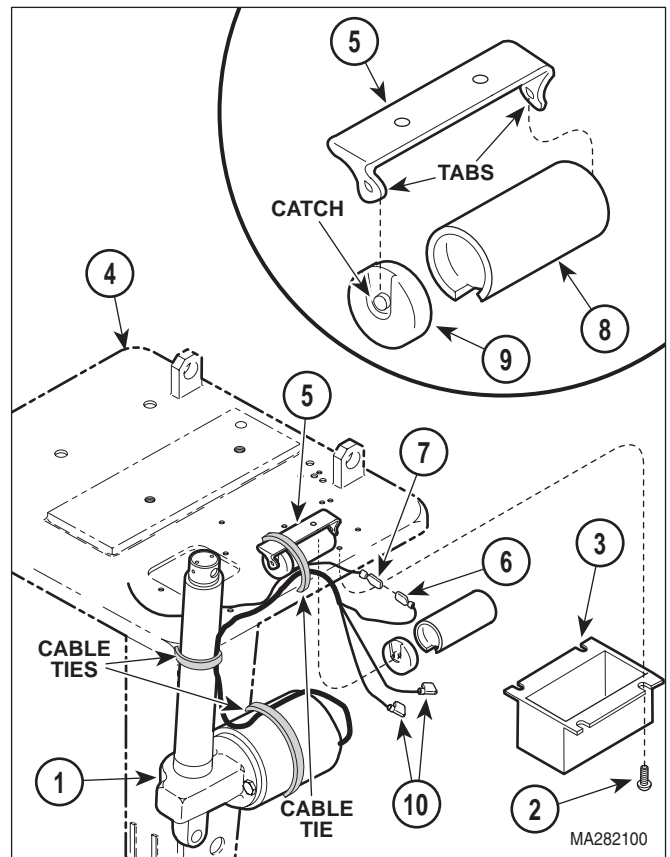

Figure 4-3. Wires Disconnection / Connection
- (4) Lower middle outer shroud assembly (4) down out of way.
- (5) Cut two cable ties securing actuator cable to shaft of tilt actuator assembly (1, Figure 4-3).
- (6) Remove two screws (2) and connection cover (3) from column adapter weldment (4).
- (7) Cut cable tie securing wire harnesses to capacitor mounting bracket (5).
- (8) Disconnect actuator wire (6) from wire (7).
- (2) Connect two wires (10, Figure 4-3) to terminals of tilt capacitor (8).
- (3) Install cap (9) on tilt capacitor (8).